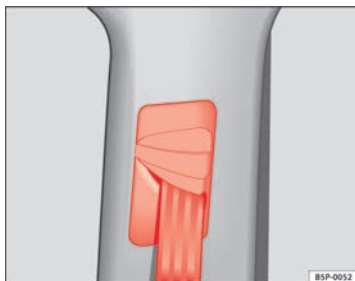

Fig. 16 Location of the belt height adjuster
- Press the upper part of the shoulder belt guide and hold it in this position → fig. 16.